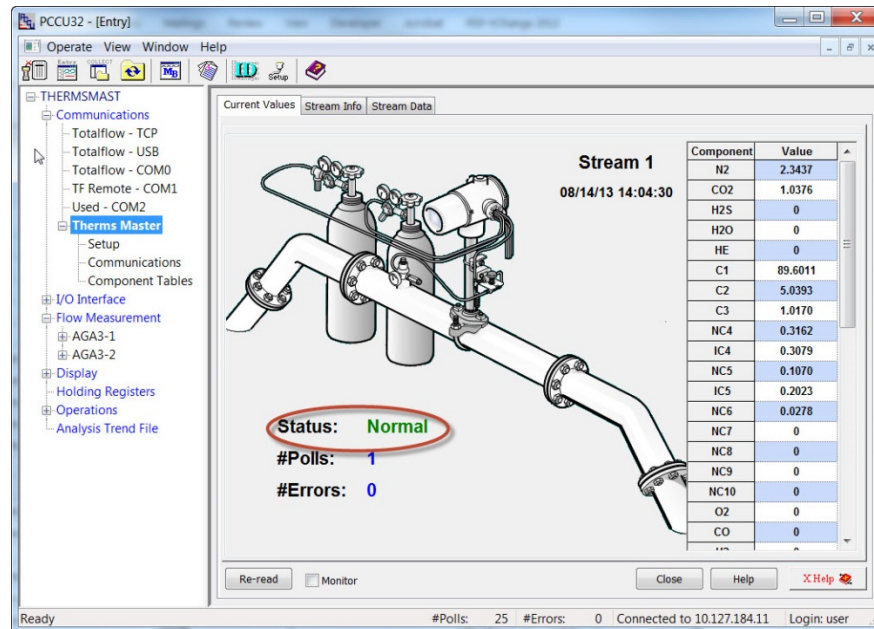

Figure 52. Verifying Therms Master reception of analysis data
- 9) Verify the Therms Master interface is getting the analysis data for the stream specified by left-clicking on *Therms Master* in the tree view on the left, as shown in Figure 52.